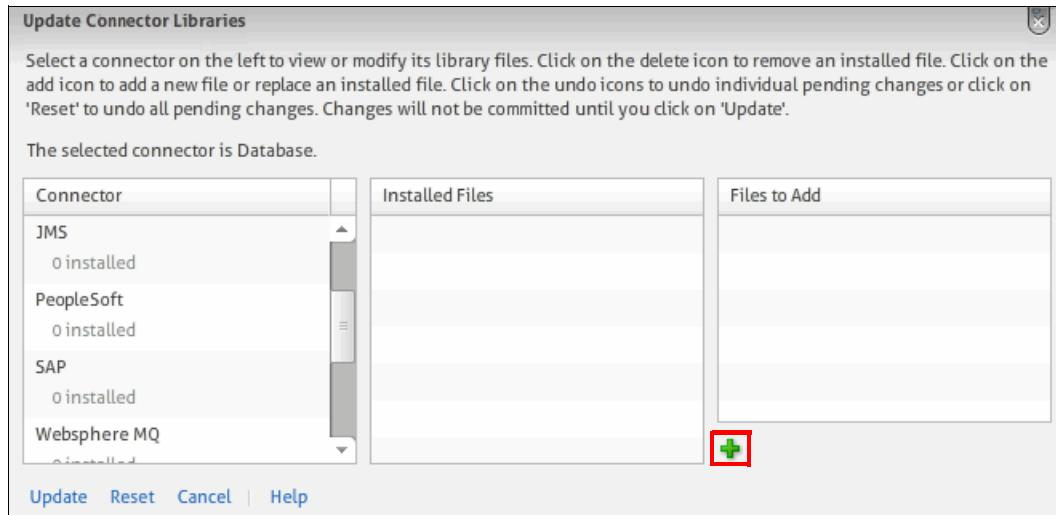

Figure 2-28 WMC connector library overview
- In the Update connector Libraries panel, click the plus sign (+), as indicated in Figure 2-28.